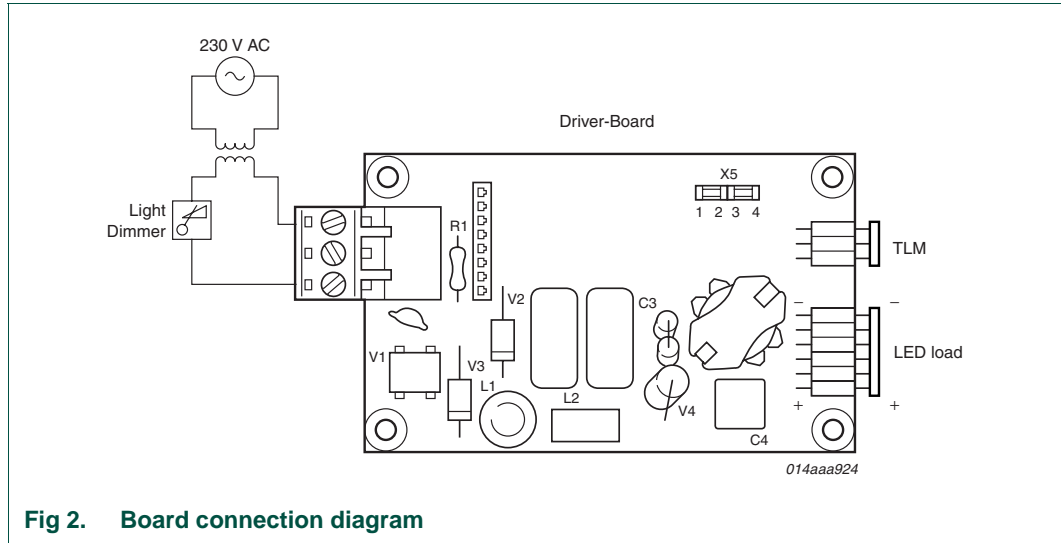

Fig 2. Board connection diagram
- Connect the mains line and the dimmer as shown in Figure 2. The dimmer unit can be placed on either input lead. If a galvanic isolated transformer is used, this should be placed in between the AC source and the dimmer/demo board.